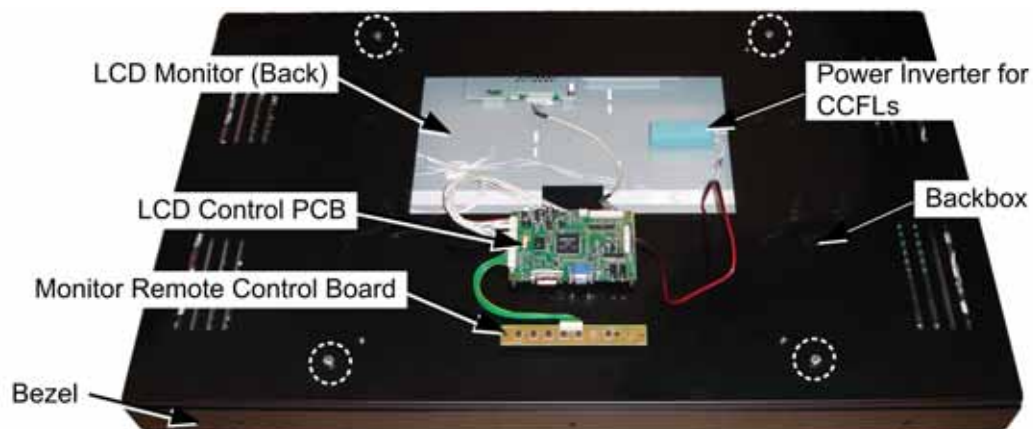

Figure 27. Monitor and Backbox Components (Deluxe)
10. Refer to Figure 27 for monitor assembly components. Carefully disconnect the three wire harnesses that connect the LCD panel to the LCD Control PCB on the back of the assembly.
11. Remove the seven (7) screws that secure the bezel in place around the front of the monitor.
12. Remove the four (4) bolts from the back of the backbox (shown by the circles in Figure 27) and lift off the backbox with the attached LCD Control PCB.
3. Refer to Figure 27 to identify monitor assembly components. Carefully disconnect all of the cables and wire harnesses from the Control PCB. (Depending on the PCB model, you may need to remove the PCB from the backbox before you can disconnect the power harness.)
4. Remove the four (4) screws that secure the PCB to the monitor backbox and remove the PCB.